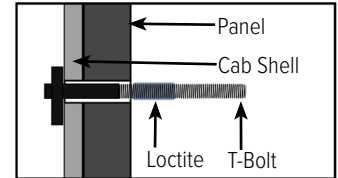

Figure 4.1.2
4.1.2 Insert a 3/8" T-bolt through the hole and push the stud in until the toggle drops outside of the elevator cab shell as shown in Figure 4.1.2. Apply a few drops of Loctite to the threads.